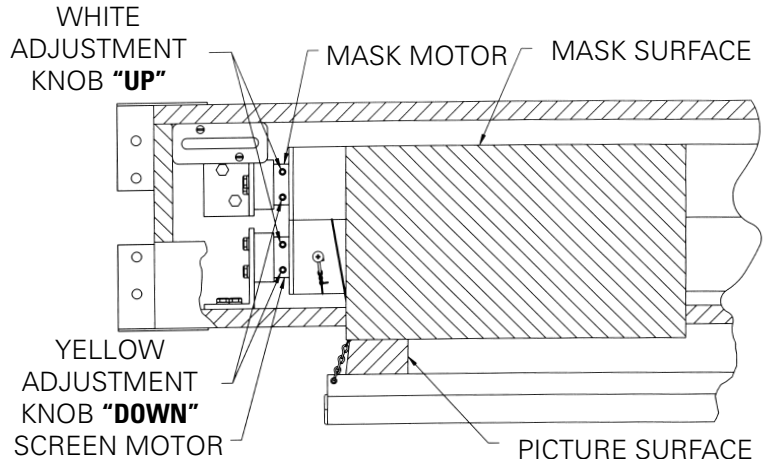

FIGURE 2
3. When the screen stops, turn the yellow "down" limit knob (Fig. 2) one-quarter turn counterclockwise. Test by raising picture surface approximately two feet, then lower again. Repeat until desired picture surface position is attained.
4. Turn the yellow "down" limit knob (Fig. 2) one-quarter turn clockwise. Test by raising picture surface approximately two feet, then lower again. Repeat until desired picture surface position is attained.